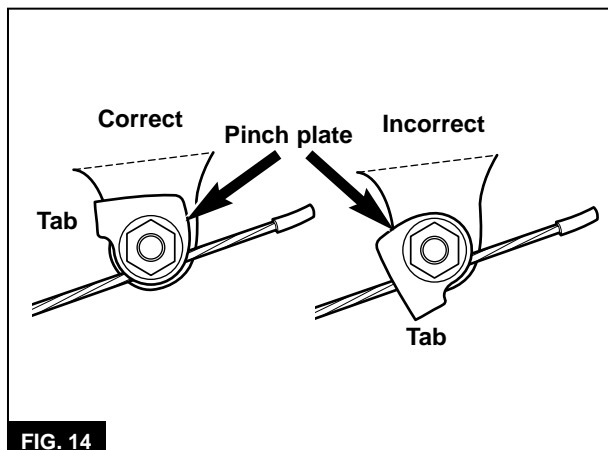

FIG. 14
- b. When looking directly at the pinch mechanism stud, the tab on the pinch plate should be on the outboard side of the inner wire (**Figure 14**).
- a. Inspect the position of the inner wire in the pinch-mechanism. The inner wire should follow the groove in the pinch plate, and the tab on the pinch plate should be on the outboard side of the cable when you look directly at the pinch-mechanism stud (**Figure 14**).